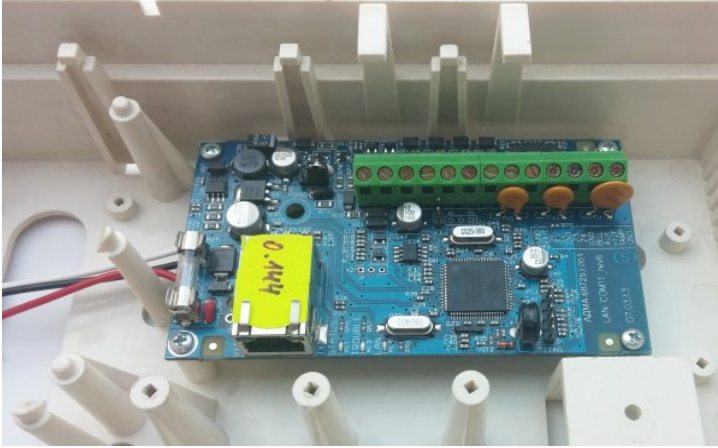

Figure 32. “LanCom” rev.6/rev.15 communicator in the device housing
1. Place the communicator into the housing (Figure 32) and connect it with the Control Panel board according to the schematic diagram in Figure 43;